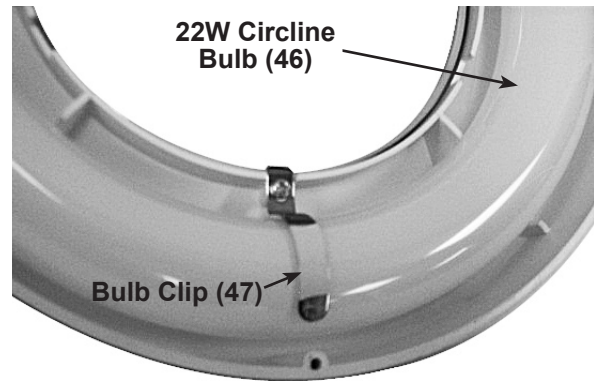

Fig. 4
5. Remove the Bulb Clips (47) by unscrewing the screws holding the clips with a #1 Phillips screwdriver. (See Fig. 4.)